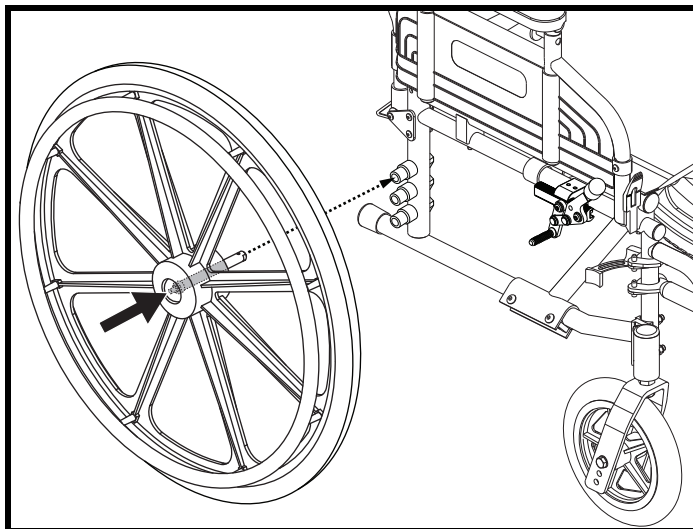

Figure 11. Quick Release Drive Wheel
1. Remove the drive wheel. Press the quick-release button and pull the drive wheel off of the wheelchair. See figure 11.